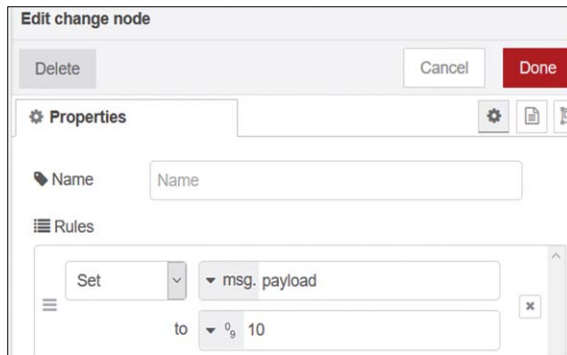

Figure 4.17 Create a change node
- Create a **change** node and set the msg.payload to 10 (this is the degrees Celsius) as shown in Figure 4.17. Click **DONE**